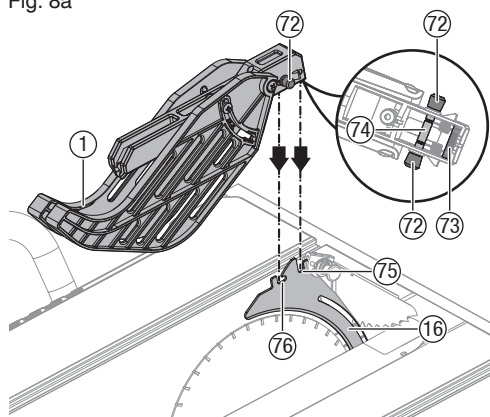

Fig. 8b
- Hold and push knobs (72) forward to the front of the blade guard. Place the pins (73, 74) on the blade guard (1) into the slot B (75) and slot C (76) indicated on the riving knife (16). (Fig. 8b)